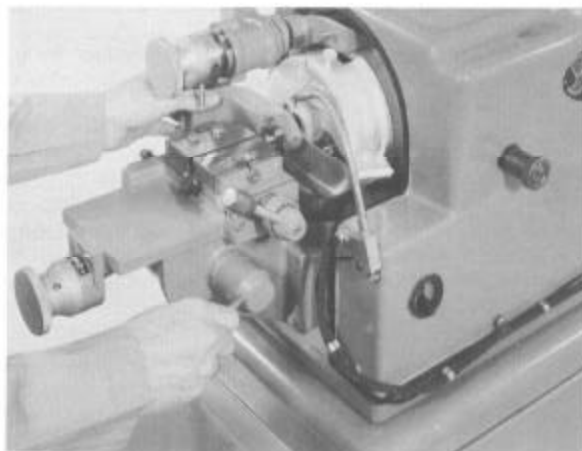

Figure 4b
3. To sharpen drills, retract the main slide with the rapid feed lever, swing the locator arm down to its positive stop, advance the slide as far as it will go, thereby locking the locator in its correct locating position. (See Figure 4b.)